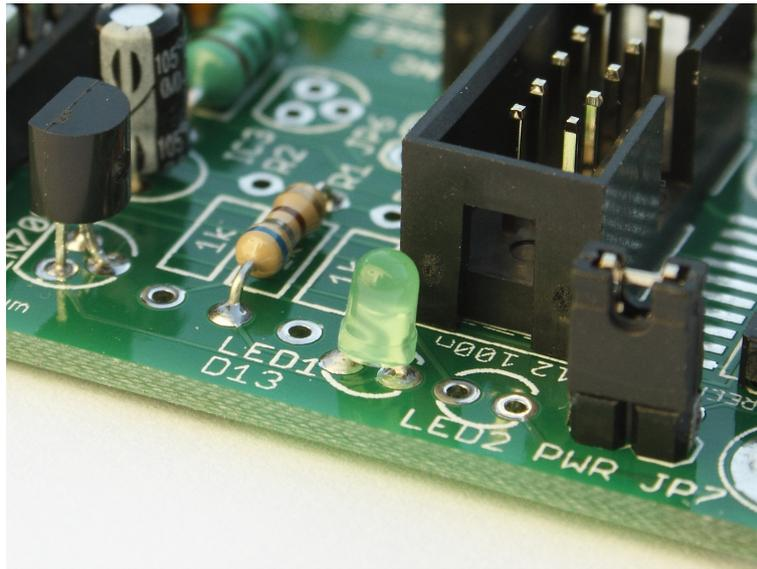

Figure 4.2: LED orientation.
13. LED1 (green LED). The cathode is nearest LED2, see figure 4.2.